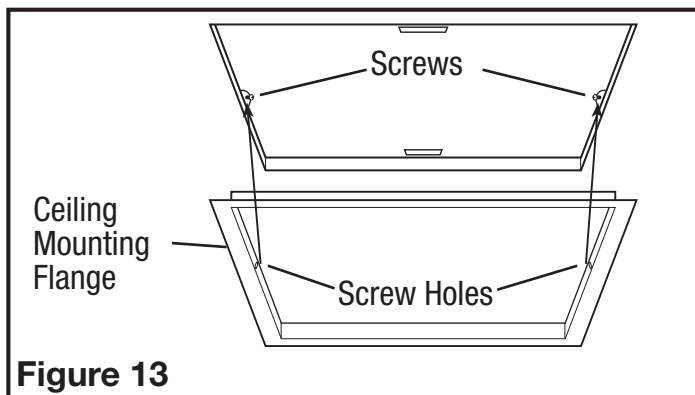

Figure 13
4. Install the ceiling mounting flange to cover any gaps which exist between the housing and the finished ceiling. Put sealant (not provided) on inside edge of the ceiling mounting flange to ensure that the flange is sealed to the ceiling. Line up the screw holes in the ceiling mounting flange with the screw holes on the inside of the housing and press flange in place so it is tight against the ceiling. Reinstall ceiling flange mounting screws inside the housing (**Figure 13**).